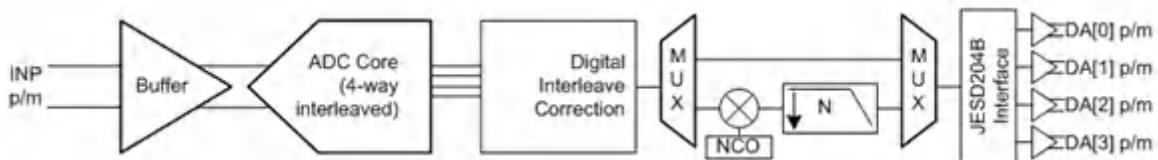

Figure 1. Block Diagram of the ADC32RF45 (Signal Chain in Brief)
In modern, high-speed, high-performance ADCs, the output of the ADC core (now in digital format) goes through much more signal processing, contributing significantly to latency. Figure 1 is a block diagram (signal chain only) for the ADC32RF45. Referring back to my definition of latency, in Figure 1, point A would be INP and point B would be DA[0], DA[1], DA[2] and DA[3], ("p/m" denotes differential signaling). The propagation delay through different blocks (buffer, multiplexer), conversion time (in the ADC core), digital processing time (interleaving correction) and delay through the decimation filter (N) all contribute to the overall latency of the ADC.